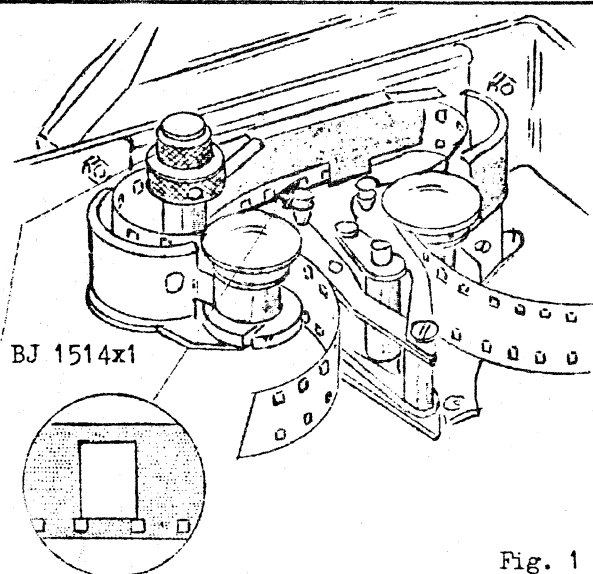

Fig. 1
1.1 Adjusting the framing (fig. 1)